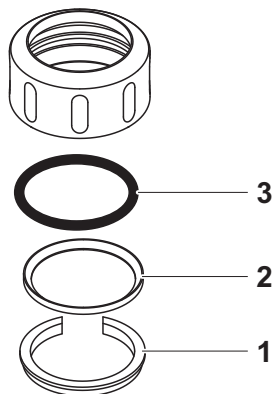

Fig. 6-2 Dismantling the coupling ring
| 1 | Remove the retaining ring (pos. 1 in Fig. 6-2). |